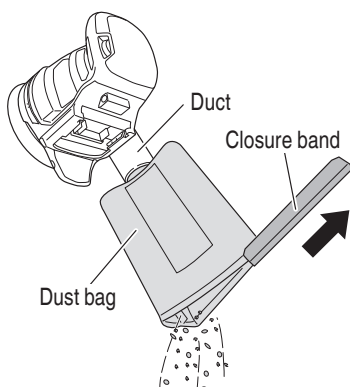

Fig. 16
1. Emptying and cleaning the dust bag (Fig. 16)